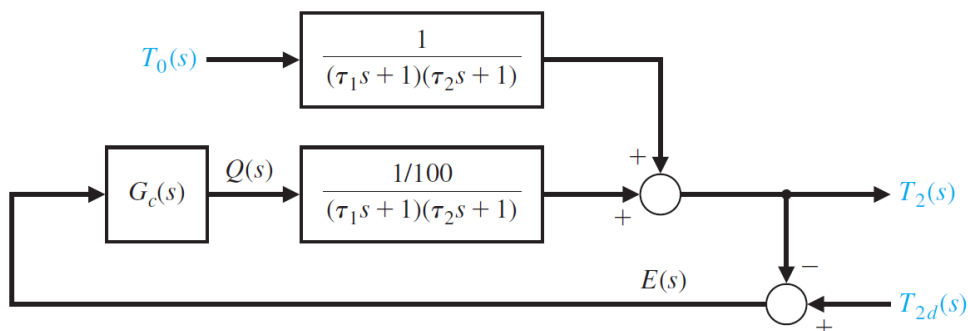

Figure 2. Temperature Control System
4. Figure 2 shows the model of a two-tank system containing a heated liquid, where $T_0(s)$ is the temperature of the fluid flowing into the first tank and $T_2(s)$ is the temperature of the liquid flowing out of the second tank. The system of two tanks has a heater in the first tank with a controllable heat input Q . The time constants are $\tau_1 = 10$ s and $\tau_2 = 50$ s.
2. Consider the system given in preliminary work Figure 2, where time constants are $\tau_1 = 10$ s and $\tau_2 = 50$ s. $T_{2d}(s)$ is $T_{2d}(s) = 1/s$ and $T_0(s)$ is the input, determine the step response of $T_2(s)$ when $G_c(s) = K$ given in B2. Observe and record overshoot, steady state error, and settling time for different K values. Draw step response for K=20 into A2. What is the impact of the parameter K on the step response of the system?